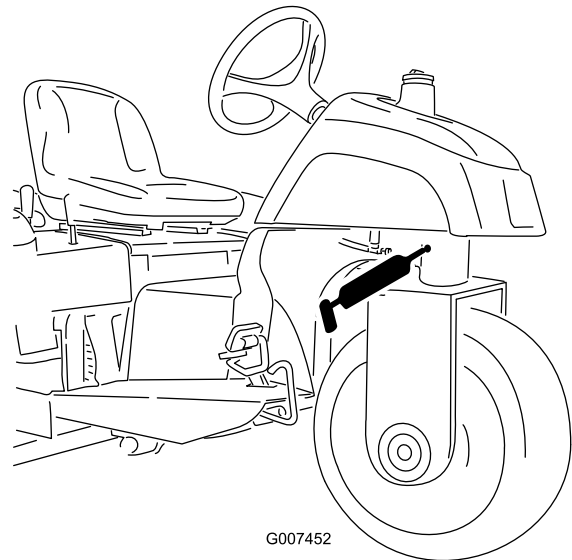

Figure 24
- Steering pivot (Figure 24)
Note: The flush fitting on the steering pivot (Figure 24) requires a grease gun nozzle adapter. Order Toro Part No. 107-1998 from your authorized Toro distributor.